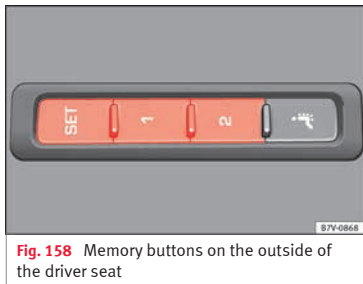

Fig. 158 Memory buttons on the outside of the driver seat
- Keep the **SET** button held down for more than one second » **Fig. 158**.